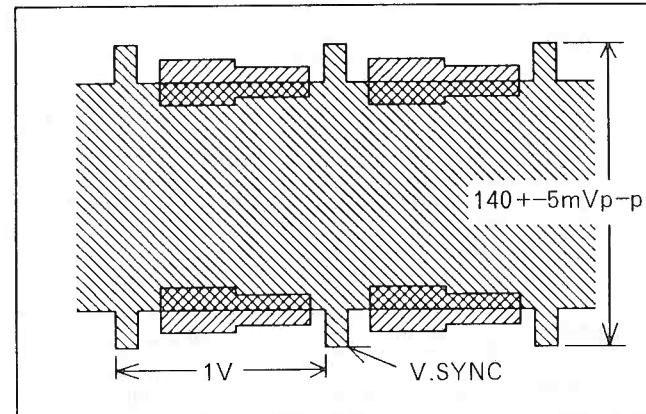

Fig. E9
5. Next, adjust VR501 so that Luminance Recording current becomes $140+/-5$ (mVp-p) as shown in Fig. E9.